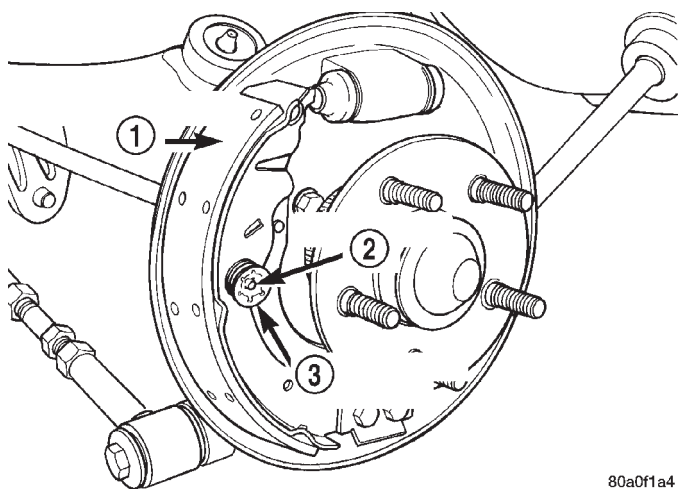

Fig. 109 Hold Down Spring And Pin
(11) Remove the hold down spring and attaching pin (Fig. 109) from the trailing brake shoe.
(4) Install the trailing brake shoe on the brake support plate. Install the attaching pin and hold down spring for the trailing brake shoe (Fig. 109).